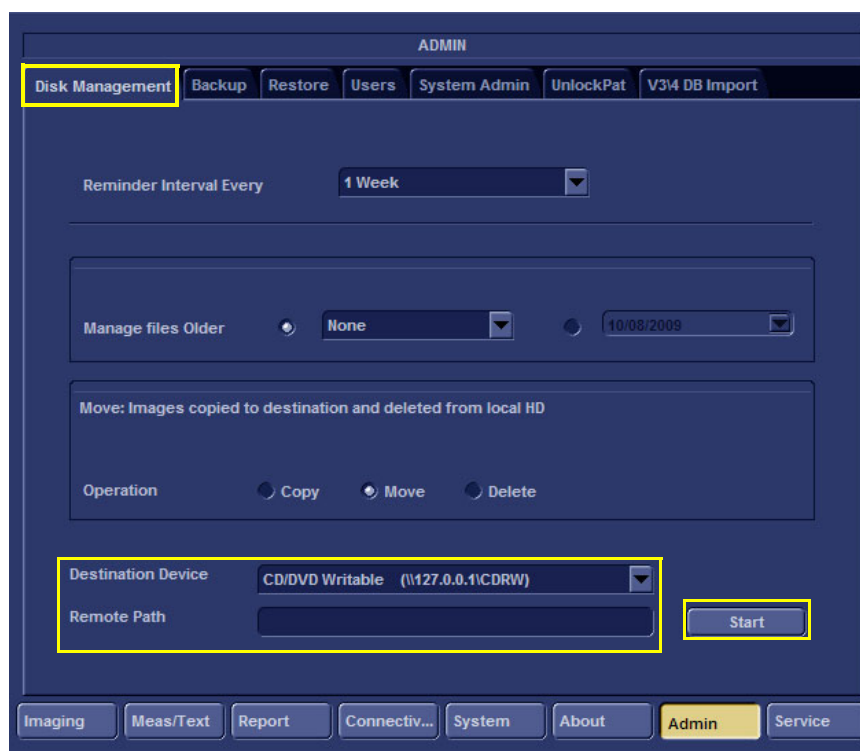

Figure 8-138 Admin Screen
6.) Click the **Disk Management** tab at the top of the screen - see Figure 8-138.
- 8.) Under Destination Device (see Figure 8-138), select the required media device.